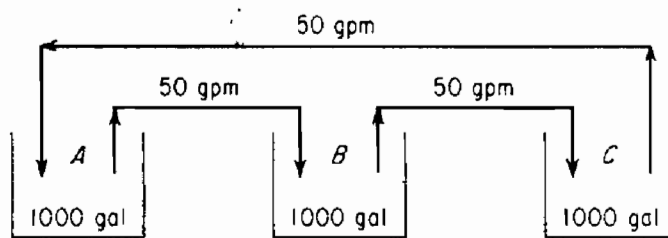

Figure P32.21
- 32.21** Tanks A , B , and C are each filled with 1000 gal of water. See Figure P32.21. Workers have instructions to dissolve 2000 lb of salt in each tank. By mistake, 3000 lb is dissolved in each of tanks A and C and none in B . You wish to bring all the compositions to within 5% of the specified 2 lb/gal. If the units are connected $A-B-C-A$ by three 50-gpm pumps,